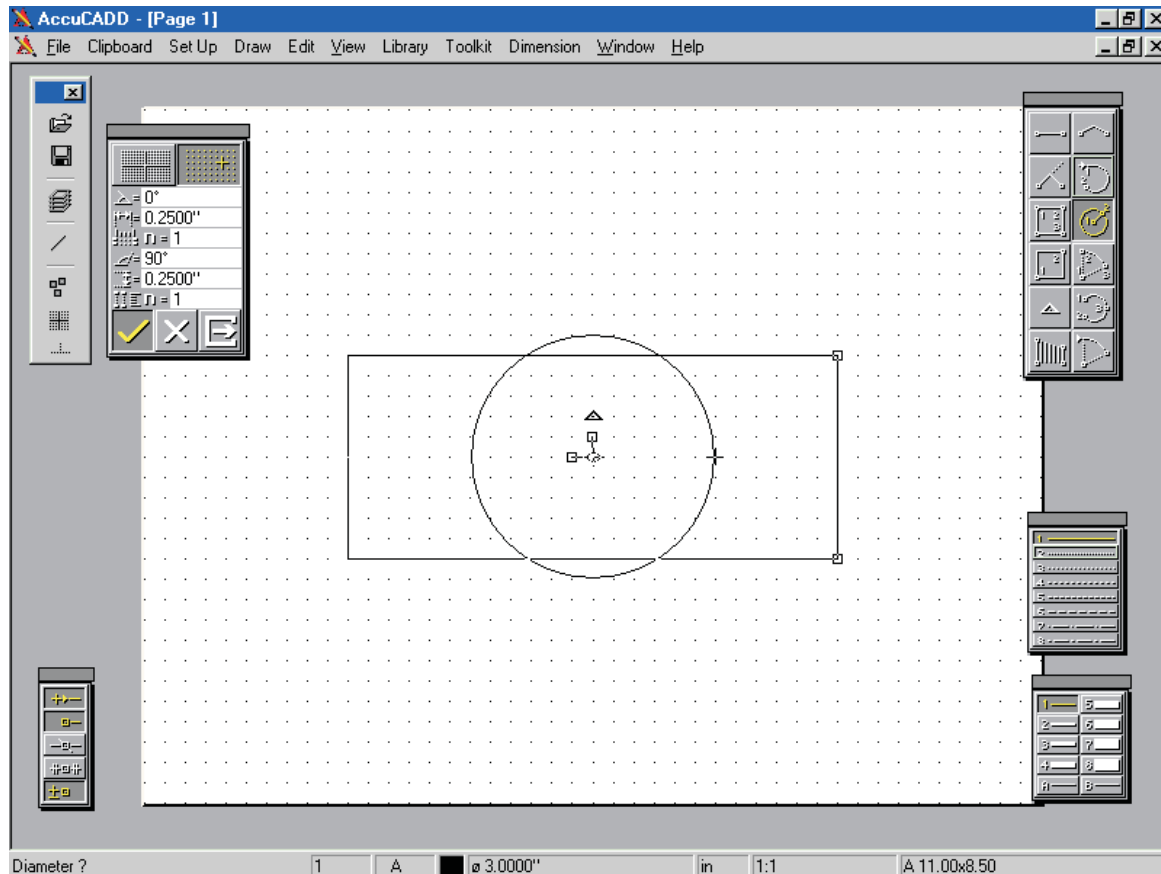

Figure 12: Adding a circle
□ Set the center of your next circle in the same place as before (touch). Key in 2.625, then press Enter to draw. (See Figure 12)